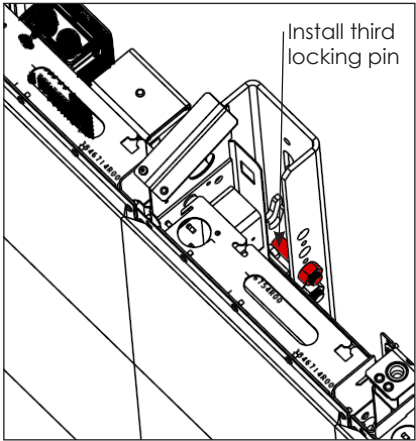

Figure 8: Install Third Locking Pin
- 9. Install the third wall channel pin into the wall channel to prevent the cabinets from lifting off of the wall channel. Refer to **Figure 8** and the Shop Drawing for the correct hole location.